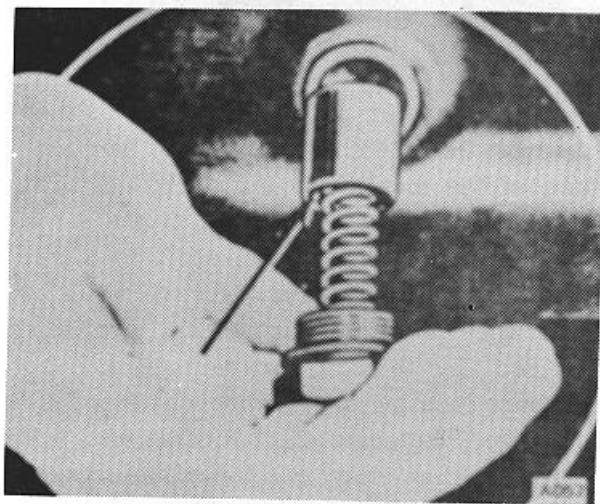

Figure 56.
3. Engine oil pressure must be maintained at 20 PSI at engine governed speed for satisfactory engine life. Pressure relief is located externally on the right-hand side, near the oil pan flange, at the center. (Fig. 56) Pressure is controlled by a plunger and spring, the latter specifically for a certain range. The only adjustment variation is either to change springs or add or remove washers from behind the present spring. Up to four washers are permissible. When replacing oil pump drive gear, it is necessary to line up the hole in the gear with the hole in the shaft.